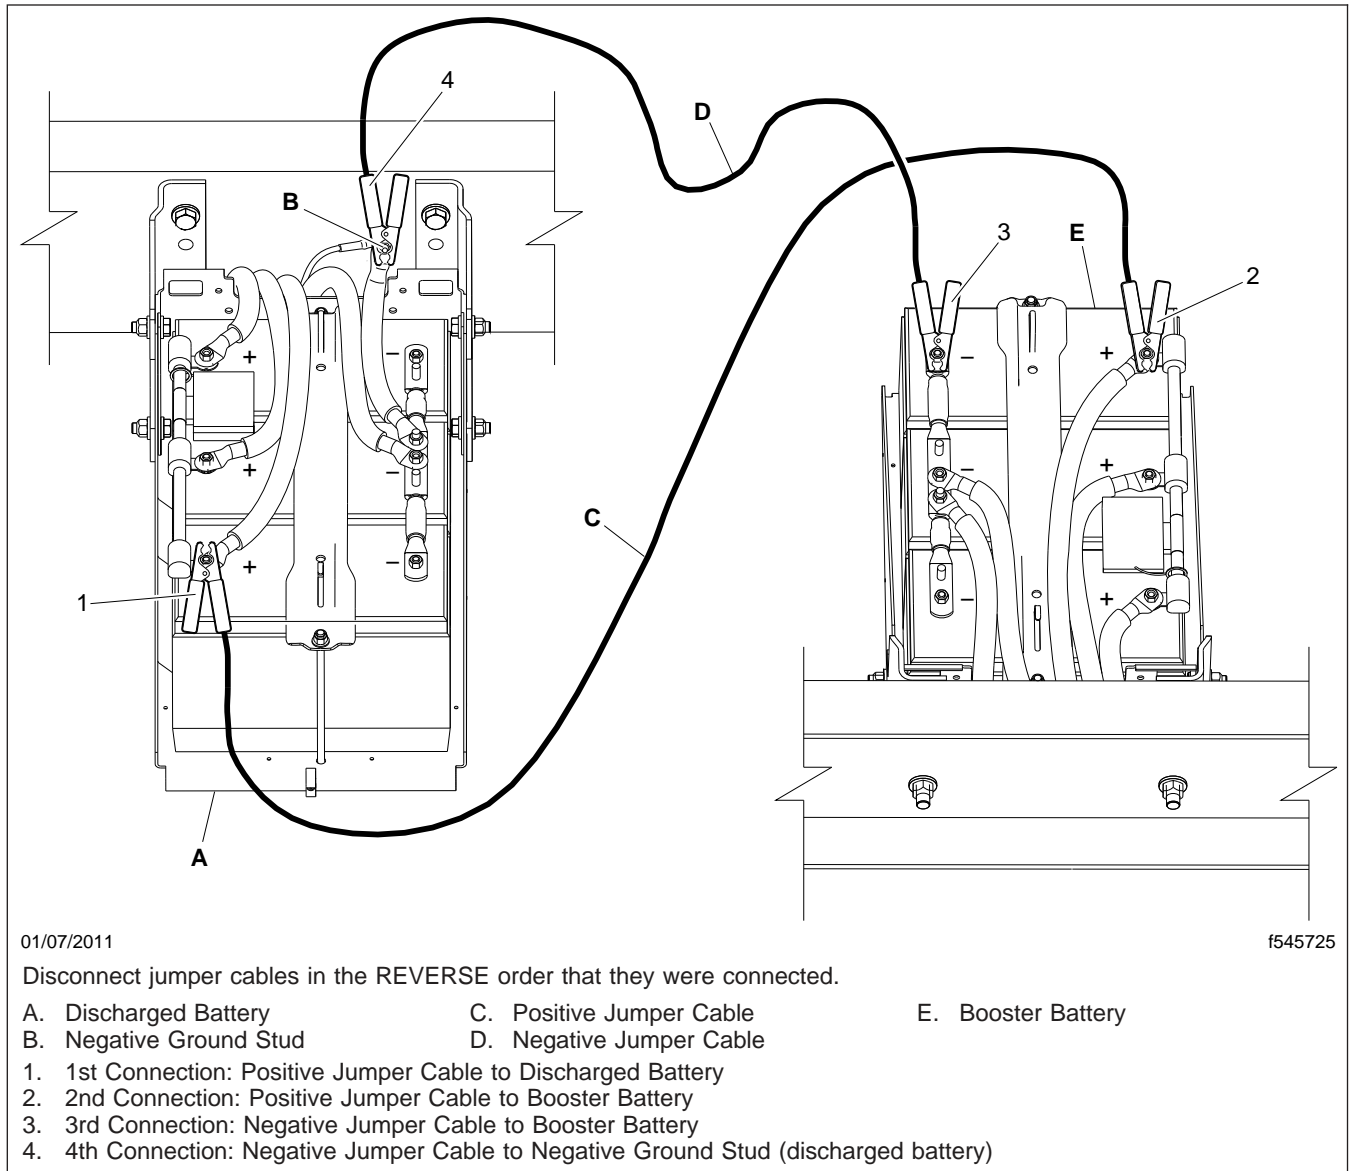

Fig. 24.6, Jumper Connections
3. Connect the positive (+) jumper cable to the positive terminal or jump start post on the discharged battery. See Fig. 24.6.